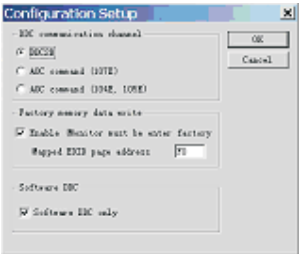

Fig. 22
1. Configuration should be as Fig. 22. And press OK.